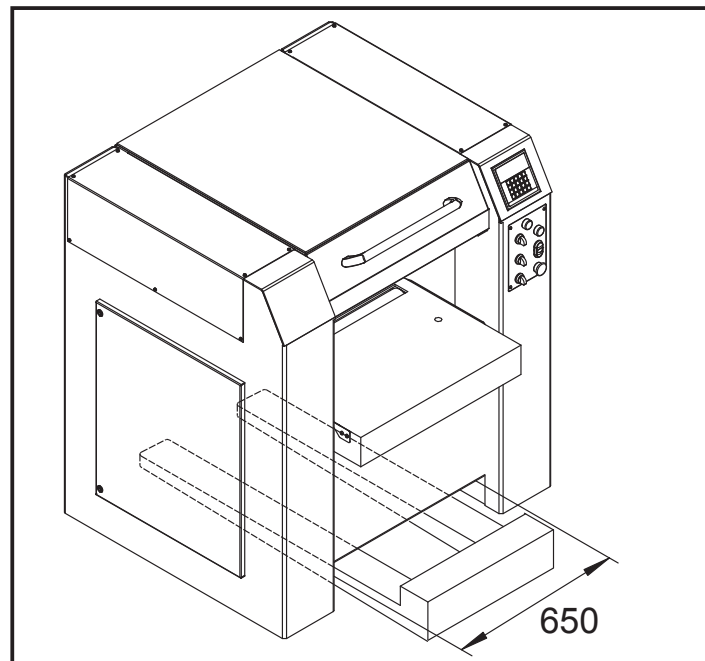

FIG.4.2
Lifting may be carried out by bridge crane or self-propelled lift truck. Before starting the maneuvers, free the machine of all the parts used for transport or Packaging that have remained on the machine. Check that the capacity of the lifting equipment is adequate for the gross weight of the machine indicated Fig.4.2.
- As Fig.4.2. Indicated: Insert forks into the bottom of the frame assembly ensuring that these are wedged against the back of the rear feet.